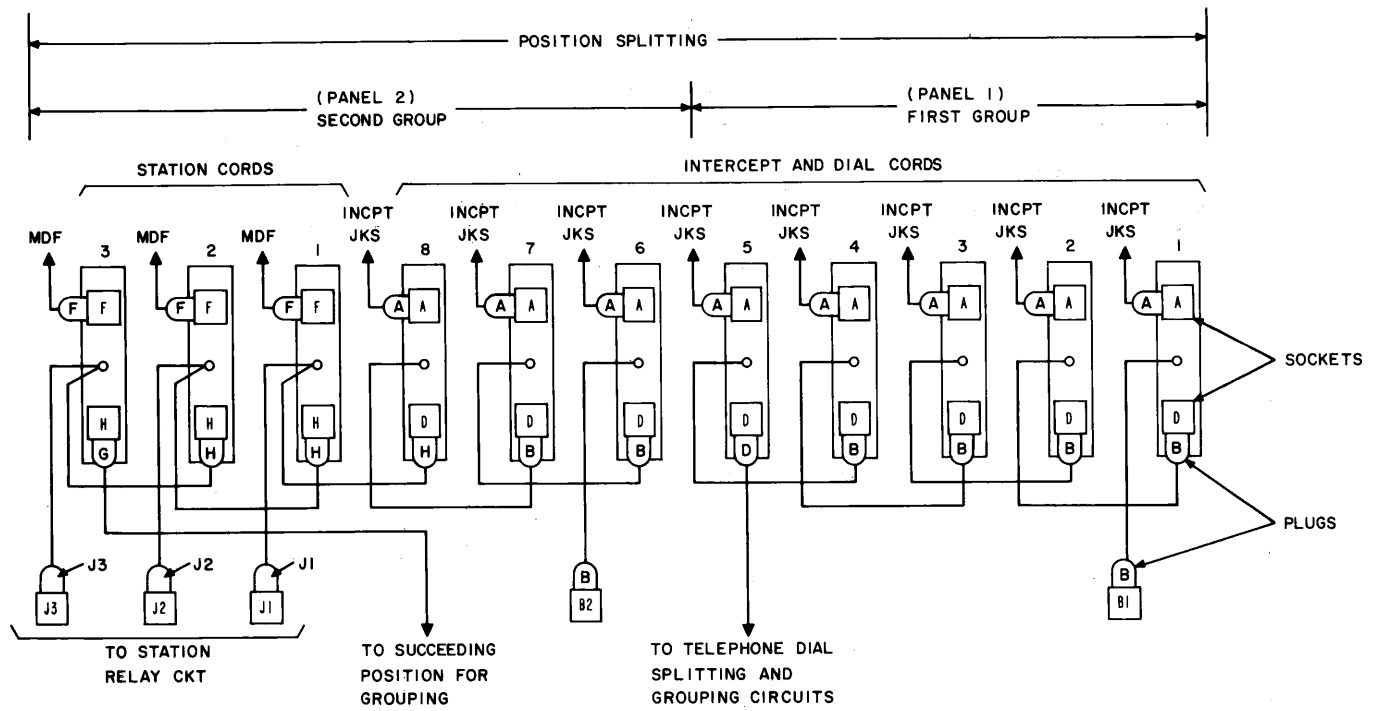

Fig. 24—Typical Connecting Arrangement of Cord Reel Units
4.09 Additional cord reel units should be connected as shown in Fig. 24 and in accordance with local job instructions.